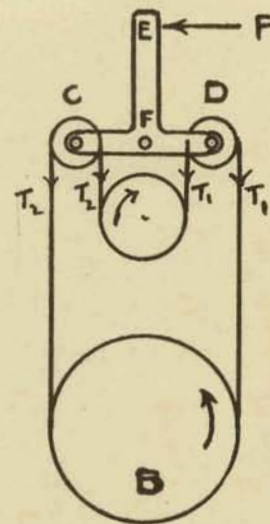

Fig. 6
6. In testing the power of an engine by a transmission dynamometer, Fig. 6, the thrust P was found to be 12 lbs. Find the brake horsepower. Speed of B 300 r.p.m.; diameter of B 40 inches; centres of C and D 36 inches apart; arm EF 30 inches long. The arm CD pivots about F, which is a fixed centre.